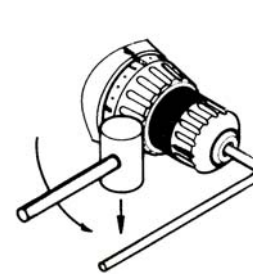

Fig. 9
3. Place a hex key in chuck and tighten. Using a wooden mallet or similar object, strike key sharply in the counterclockwise direction (see Fig. 9). This will loosen the chuck so that it can be unscrewed by hand.